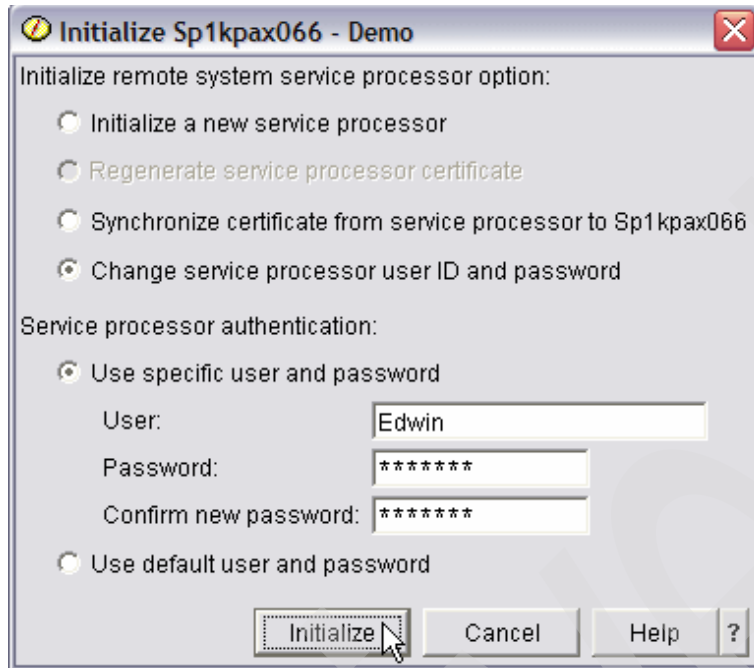

Figure 6-26 Change option on Initialize window
3. The Initialize window opens (Figure 6-26 on page 175), select **Change service processor user ID and password**.